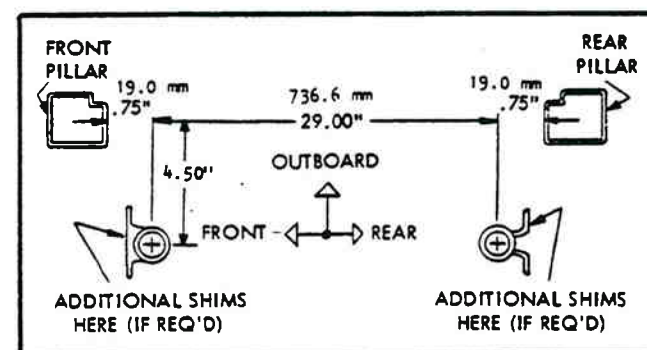

Figure 3-27. Adjustment of Upper Brackets.
1. Refer to figure 3-27. Check fore and aft dimension between shaft centers. Centers should measure 29.00 in. (736.6 mm). If centers are less than 29.00 in. (736.6 mm), remove shims between brackets and spacers.